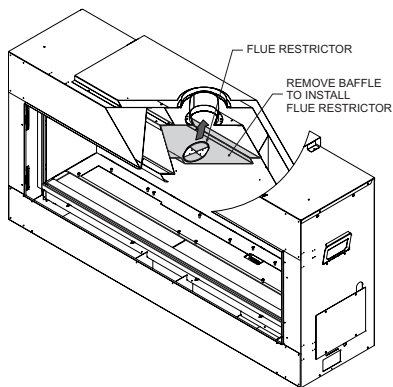

Figure 38
For installation of the restrictor after the venting is installed, remove (2) screws from each end of the flue baffle and set aside. Insert the restrictor up into the flue collar and position it as shown in Figures 38 & 39. Then, re-install the flue baffle.